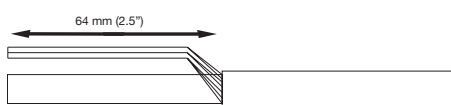

Figure 1
4. Unbraid the ground braid back to the outer jacket and twist it to one side to form a pigtail on each cable. (see Figure 1)